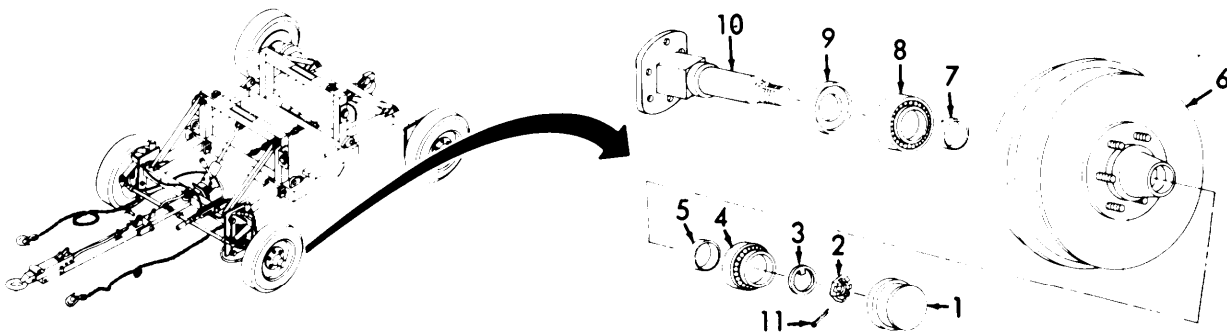

Figure 3-33. Front Wheel Bearings, Removal.
- (1) Remove grease cap (1, Figure 3-33) cotter pin (11), nut (2), and key washer (3).
- (2) Pull drum (6) from spindle (10).
- (3) Remove bearing (4) and cup (5) from drum (6).
- (4) Remove retainer (7), bearing (8), and grease seal (9) from spindle (10).